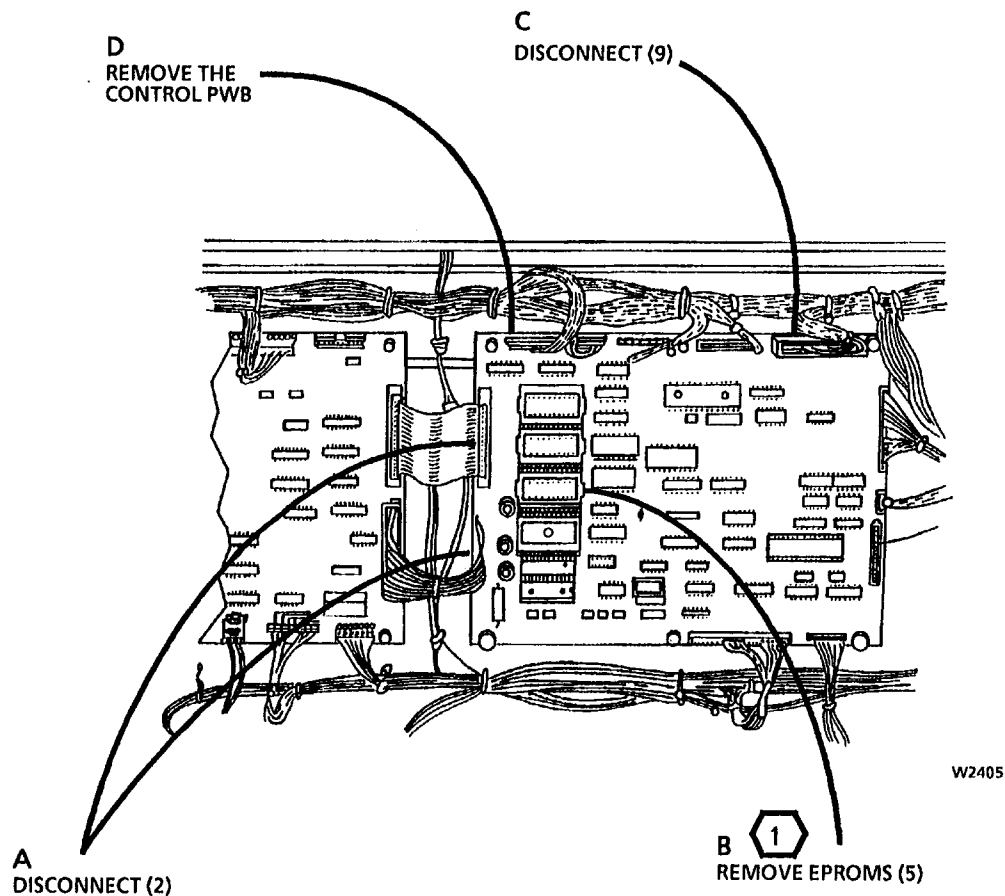

Figure 1. Removing the Control PWB
2. (Figure 1): Remove the Control PWB.